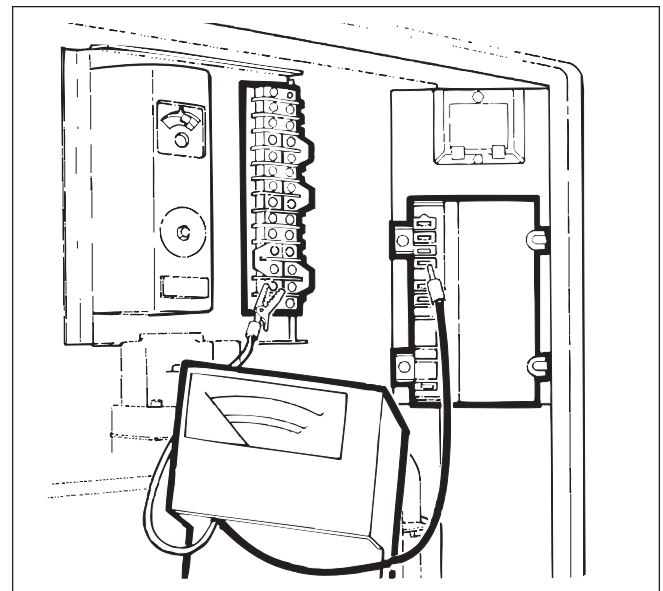

Figure 41. Flame sensing current.
2. If everything appears all right, measure flame sensing current by connecting a direct current (DC) microamp meter between terminal No. 12 and the GND (BURNER) terminal on the ignition control (see Figure 41).